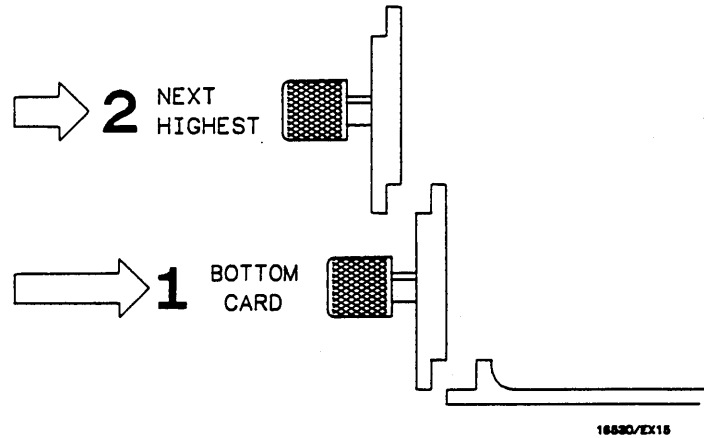

Figure 2-9. Endplate Overlap
- l. Repeat for all cards and filler panels in a **bottom to top** order. See figure 2-9.